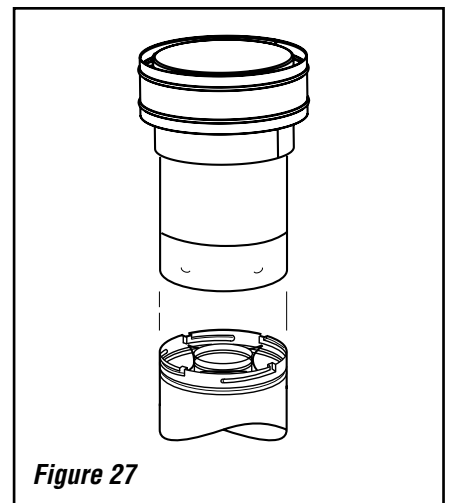

Figure 27
K. Install the vertical termination - The final step involves installation of the SV4.5CGV-1 Vertical Termination. Extend the vent sections to the height as shown in the "Vertical vent termination section" in **Figure 5 on Page 5**. The SV4.5CGV-1 Vertical Termination (**Figure 27**) can be installed in the exact same fashion as any other **Secure Vent** section. Align the termination over the end of the previously installed section, adjusting the radial alignment until the four locking dimples of the termination are aligned with the inlets of the four incline channels of the last vent section. Push the termination down until it fully engages, then twist the termination clockwise running the dimples down and along the incline channels until they are seated at the end of the channels.